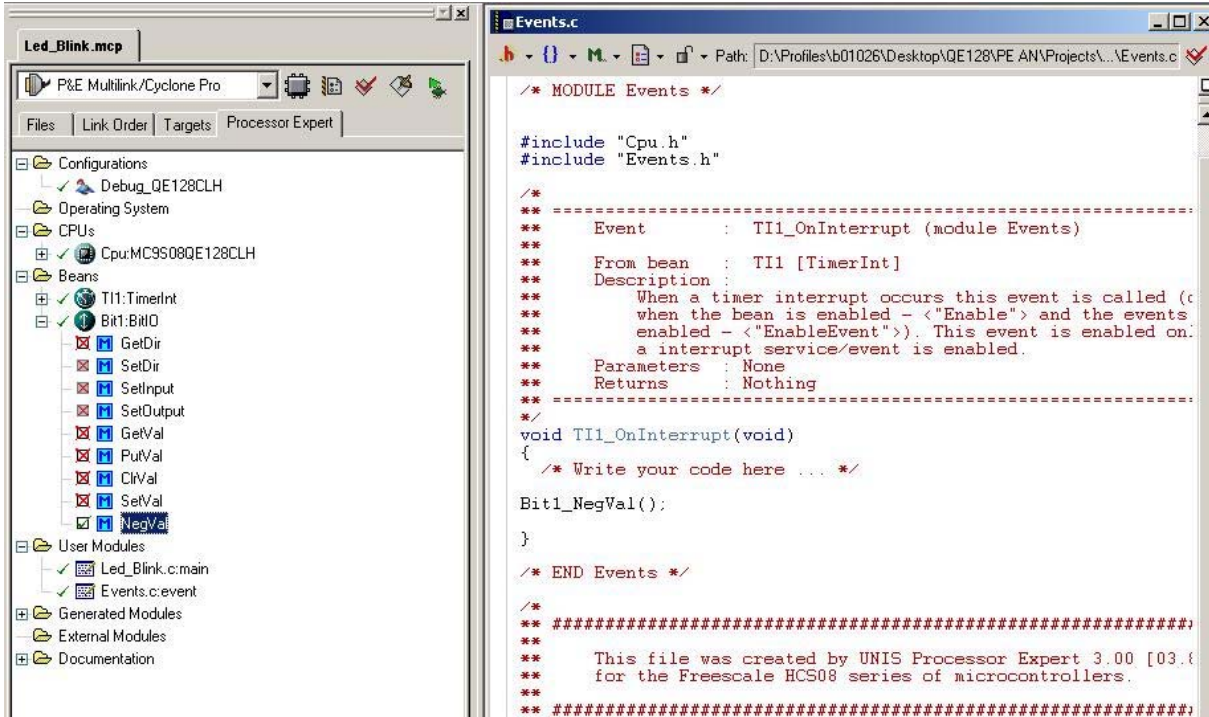

Figure 24. Events.c file -TI1_OnInterrupt Function on LED_Blink Project
16. If needed drag-and-drop the NegVal method inside the TI1_OnInterrupt function. The NegVal method is inside the BitIO bean, as shown in Figure 24.